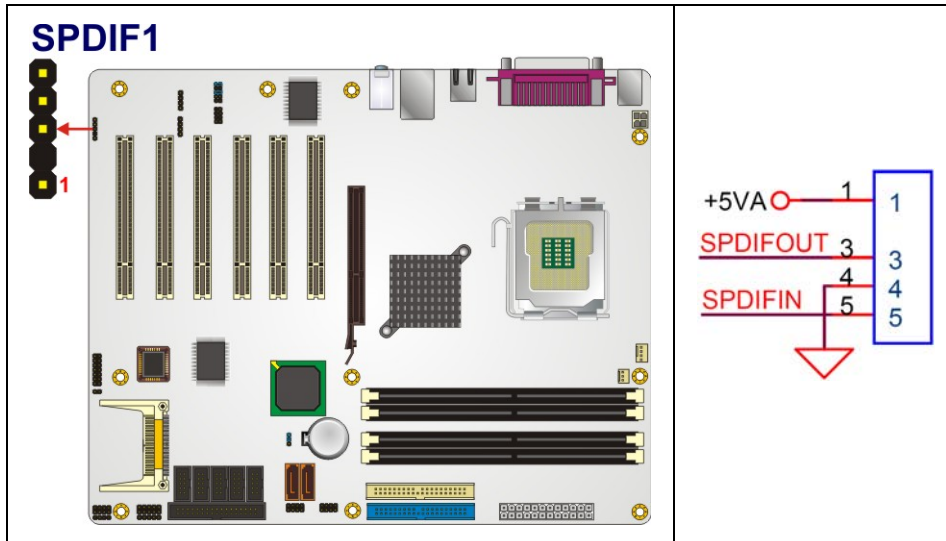

Figure 4-20: SPDIF Connector Pinout Locations
- CN Location:** See Figure 4-20